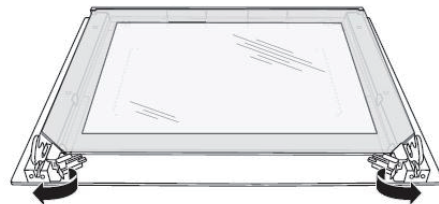

Figure 1
1. Rotate the two black block stops positioned at the bottom of the oven door as shown in Figure 1